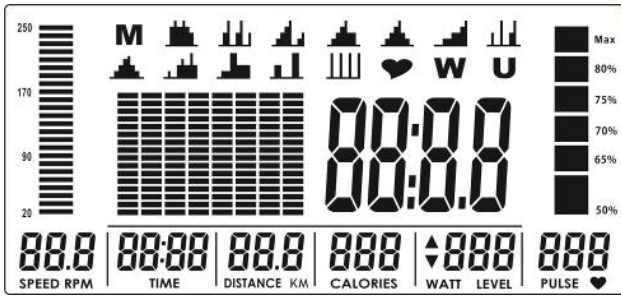

Figure 1
The console turns on and shows all segments of the LCD display for two seconds. (Fig. 1).
1. Choose the target programme (M) and confirm your choice with the encoder.
2. Choose the resistance level with the encoder and confirm your entry with the encoder (Fig. 1).